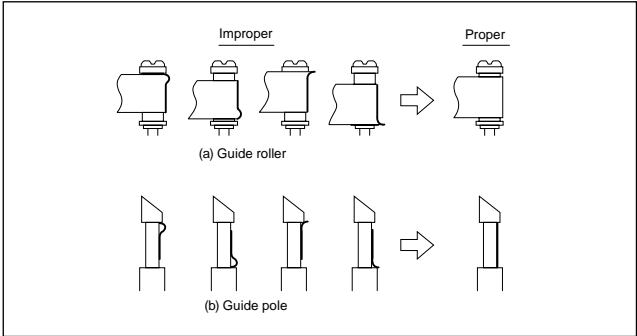

Fig. 2-3-1d
- (6) Make sure that the V.PB FM waveform varies in parallel and linearly with the tracking operation again. When required, perform fine-adjustment of the guide roller of the pole base assembly (supply or take-up side).
- (7) Unload the cassette tape once, play back the alignment tape (A1) again and confirm the V.PB FM waveform.
- (8) After adjustment, confirm that the tape wrinkling does not occur at the roller upper or lower limits. (See Fig. 2-3-1d.)